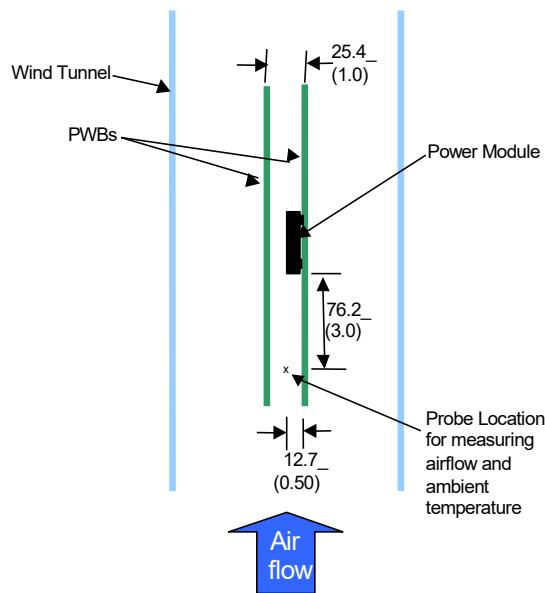

Figure 34. Thermal Test Setup.
Power modules operate in a variety of thermal environments; however, sufficient cooling should always be provided to help ensure reliable operation. Considerations include ambient temperature, airflow, module power dissipation, and the need for increased reliability. A reduction in the operating temperature of the module will result in an increase in reliability. The thermal data presented here is based on physical measurements taken in a wind tunnel. The test set-up is shown in Figure 34. The preferred airflow direction for cooling the module and the thermal reference points, Tref used in the specifications are shown in Figure 35. For reliable operation the temperatures at these points should not exceed 120°C (IC300) and 115°C (C202). The output power of the module should not exceed the rated power of the module ($V_o, \text{set} \times I_{o, \text{max}}$). Please refer to the Application Note "Thermal Characterization Process for Open-Frame Board-Mounted Power Modules" for a detailed discussion of thermal aspects including maximum device temperatures. Increased airflow over the module enhances the heat transfer via convection. The thermal derating of figures 2, 8, 14 and 20 show the maximum output current that can be delivered by each module in the indicated orientation without exceeding the maximum Tref temperature versus local ambient temperature (TA) for several air flow conditions. The thermal derating curves were generated using a 12 layer evaluation board with 3oz copper in inner layers and 2 oz in outer layers.